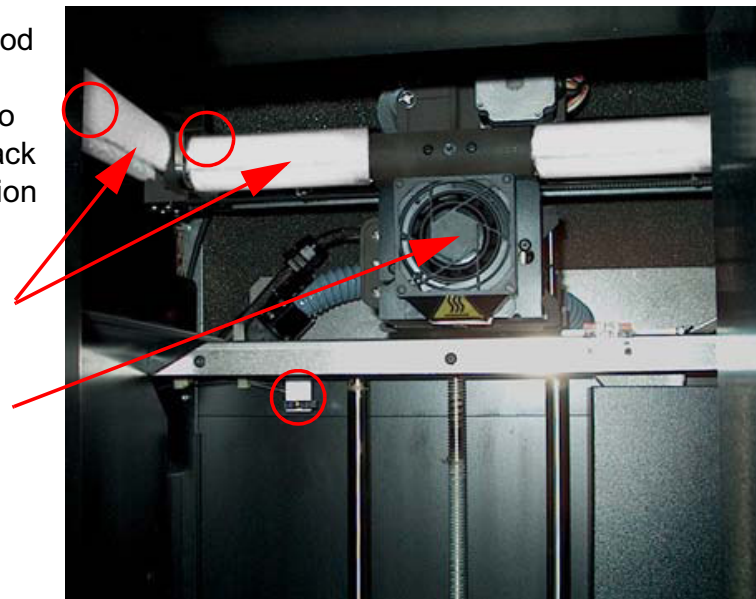

Figure 3: Foam tubes isolating the extrusion head from the Z-axis frame
Remove the foam tubes that isolate the extrusion head from the frame (see Figure 3). The printer will be damaged if powered on with the foam tubes in place.
Be careful not to damage the rod sensors when removing the foam tubes (see Figure 3).
8. Remove the foam tubes that isolate the extrusion head from the frame (see Figure 3).
Remove the foam tubes that isolate the extrusion head from the frame (see Figure 3 on page 19). The printer will be damaged if powered on with the foam tubes in place.